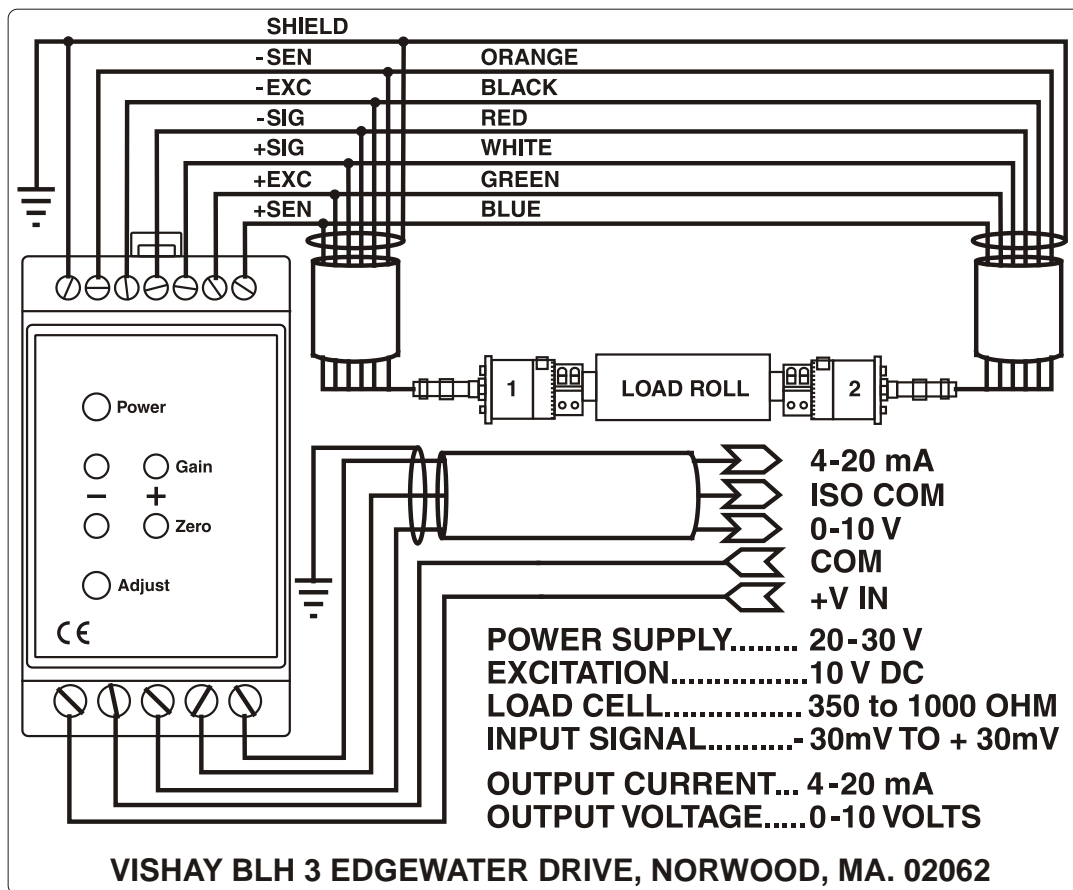

Figure 1. PS1010T Electrical Wiring.
For application, which uses a four-wire load cell cable, two jumpers must be installed between +SEN to +EXC and between -SEN to -EXC. Figure 1 illustrates the electrical wiring for the PS1010T transmitter module.
- Connect the PS1010T transmitter as shown in Figure 1.